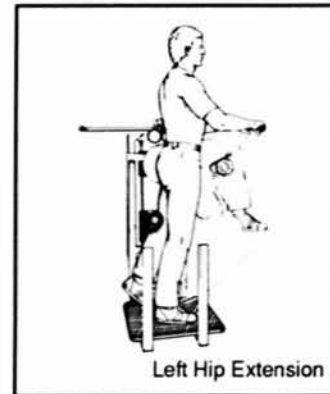

Figure 2
- B. Stand as indicated in Fig. 2 with the side to be exercised closest to the pivot arm. Align the hip with the axis of the pivot arm and grasp handles for stabilization. The leg pad should be positioned comfortably across the back of the leg, just above the knee.